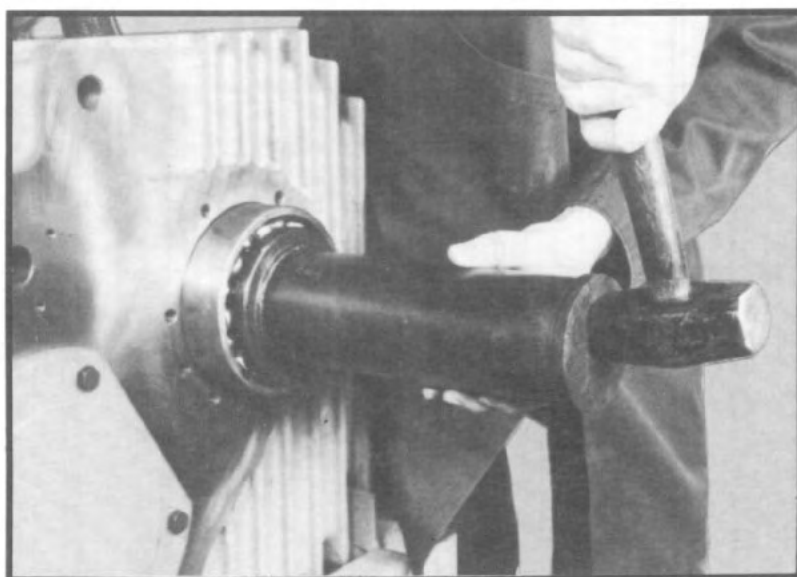

Fig. 143
- 3.7 Install lower shaft front ball bearing on front of shaft. Supporting the shaft assembly with a chain hoist, tap the ball bearing with a suitable driver to push the bearing into the housing. (Tap evenly on inner race.) Do not remove the chain hoist support until after Step 10. (See fig. 143.)